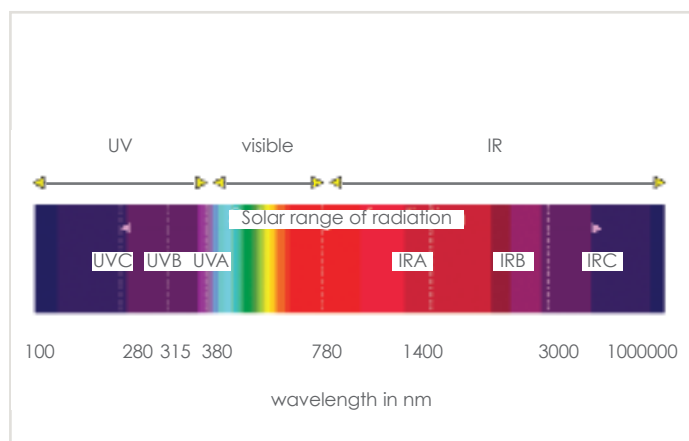

Figure 1: Optical range of radiation
From **figure 1**, it can be seen that the visible range of solar radiation within the electromagnetic spectrum is from 380 to 780nm. This effectively is light which gives rise to the sensation of vision. Bright light outdoors can be uncomfortable but not necessarily harmful. Wavelengths shorter than 380nm are ultra-violet (UV) and longer than 780nm are infrared (IR). Both these bands are potentially harmful to the eye although the latter will be accompanied by the sensation of heat, and therefore giving rise to the awareness of this hazard.